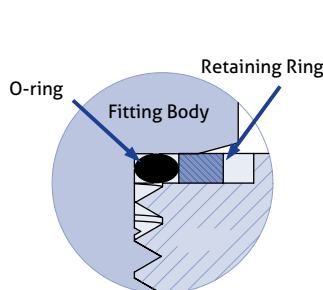

Figure 19:
1. A retaining ring and O-ring. Some straight fittings may have a seal that is bonded into the inside edge of a washer. This is known as a bonded seal or a Dowty seal (not shown). For extreme heat applications, straight fittings may include a copper washer for a seal. (Figure 19)